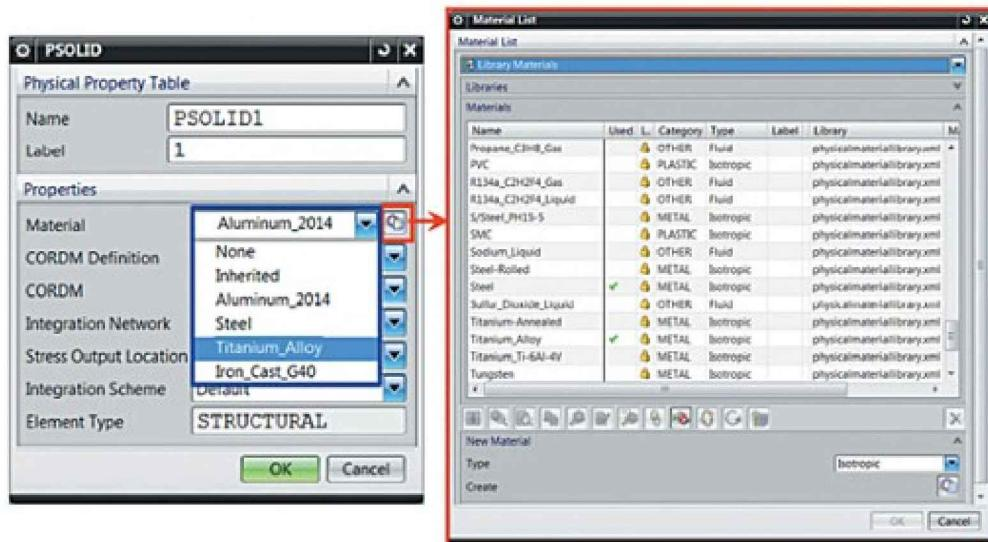

Figure 3.8. Assigning a material in physical properties
corresponds to the *Inherited* option in the materials list of the physical property table dialog box (Figure 3.8) .
2. Use the material specified in the collector. When you specify physical properties in the corresponding collector (Figure 3.8), select a material that exists in the FE model from the drop-down list (blue frame) or create a new material from the Materials Library (red frame).